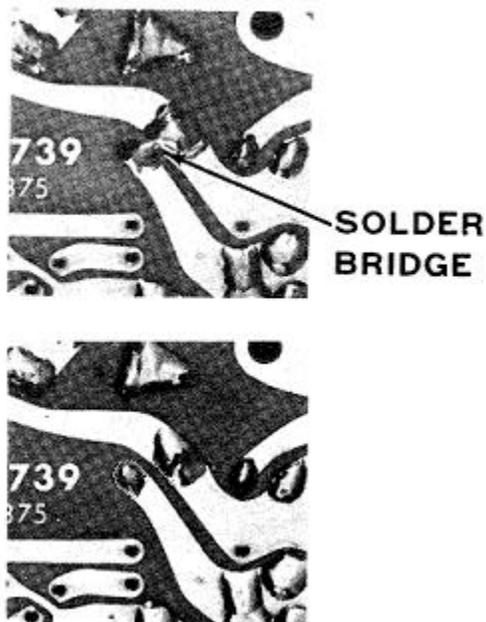

Figure 12. Example of a solder bridge.
- b. Qualities of poor solder joints (See Figure 12):
6. Excess Solder. Excess solder usage can cover up other potential problems and should be avoided. It can also lead to solder bridges as seen in Figure 12. In addition, spherical solder joints can result from the application of too much solder.